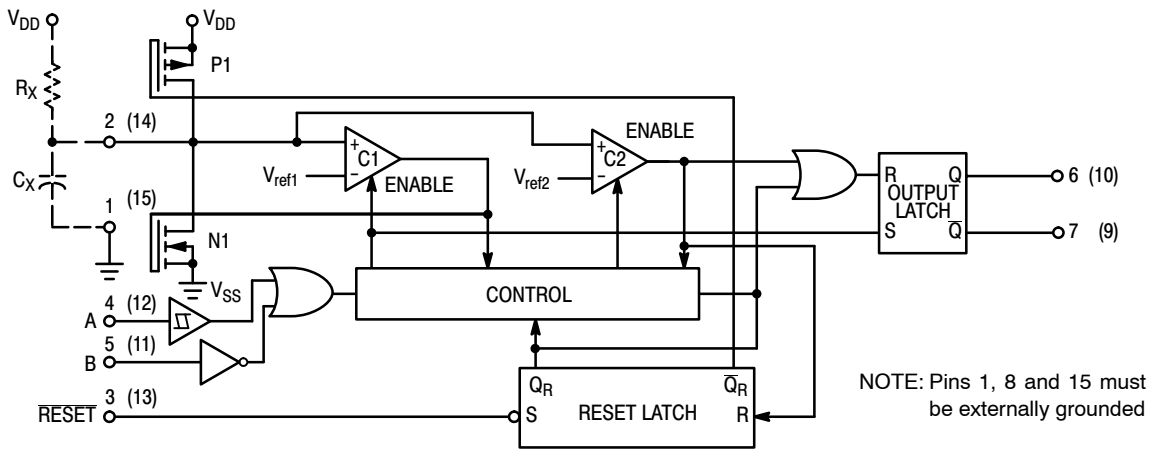

Figure 1. Logic Diagram (1/2 of Device Shown)
The block diagram of the MC14538B is shown in Figure 1, with circuit operation following.
As shown in Figure 1 and 10, before an input trigger occurs, the monostable is in the quiescent state with the Q output low, and the timing capacitor C_X completely charged to V_{DD} . When the trigger input A goes from V_{SS} to V_{DD} (while inputs B and $\overline{\text{Reset}}$ are held to V_{DD}) a valid trigger is recognized, which turns on comparator C1 and N-channel transistor N1 ①. At the same time the output latch is set. With transistor N1 on, the capacitor C_X rapidly discharges toward V_{SS} until V_{ref1} is reached. At this point the output of comparator C1 changes state and transistor N1 turns off. Comparator C1 then turns off while at the same time comparator C2 turns on. With transistor N1 off, the capacitor C_X begins to charge through the timing resistor, R_X , toward V_{DD} . When the voltage across C_X equals V_{ref2} , comparator C2 changes state, causing the output latch to reset (Q goes low) while at the same time disabling comparator C2 ②. This ends at the timing cycle with the monostable in the quiescent state, waiting for the next trigger.